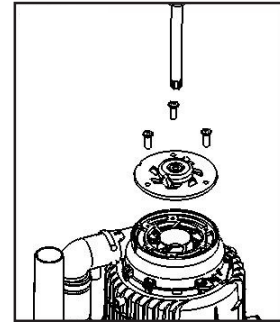

FIGURE 4
2. Unscrew the 3 screws of the grinder blade (fig. 4).